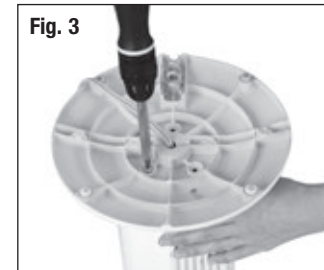

Fig. 3
- Using the 3 (M5 x 12) screws and phillips head screw driver (⊗) secure the base into the bottom portion of the fan housing by aligning the 3 screw holes on the base with the 3 screw holes on the bottom of the fan housing (Fig. 3).